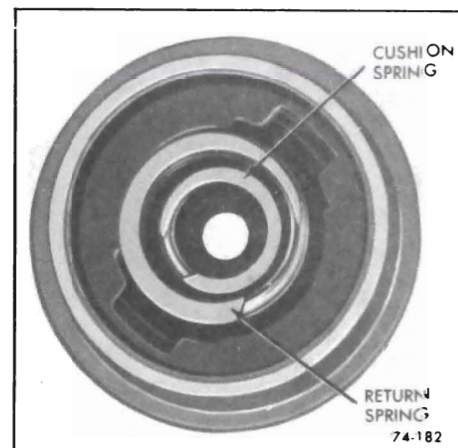

Figure 74-175
2. Install cushion and return springs into secondary piston assembly. See Figure 74-175.